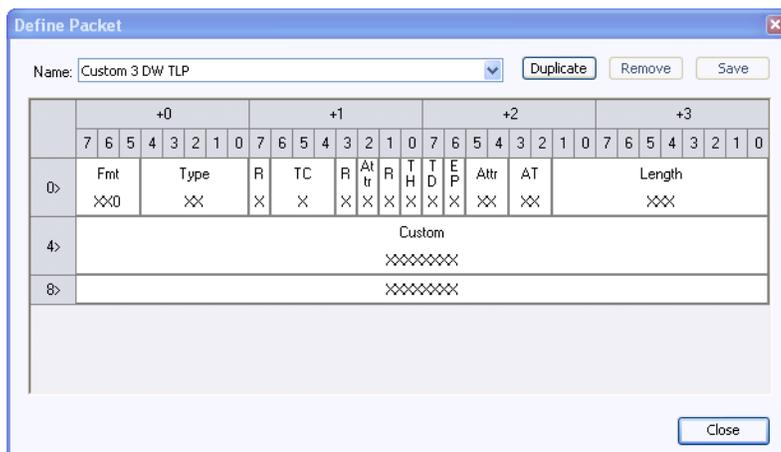

Figure 44: Define Packet window for a Custom element in the Summary Profile window
2. Select one of the default packet types from the Name list. (See Figure 44.)